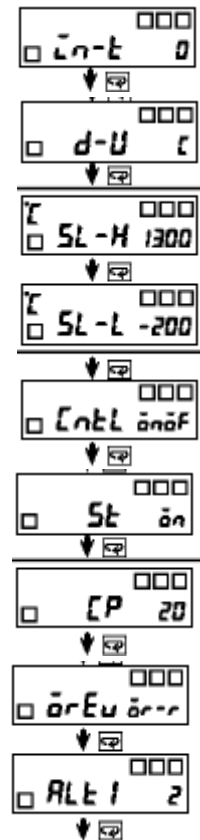

Figure 1.2
**Initial Settings (Figure 1.2)**